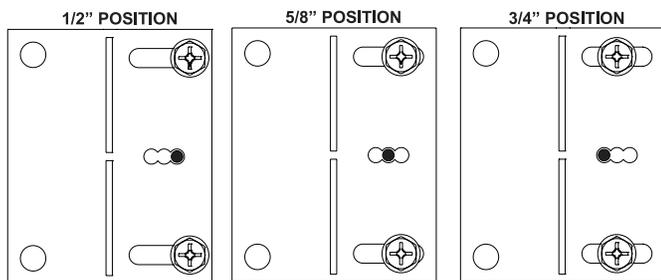

Figure 8
5. Measure from face of fireplace to face of drywall strip to determine final depth and adjust nailing flanges as shown in **Figure 8.**